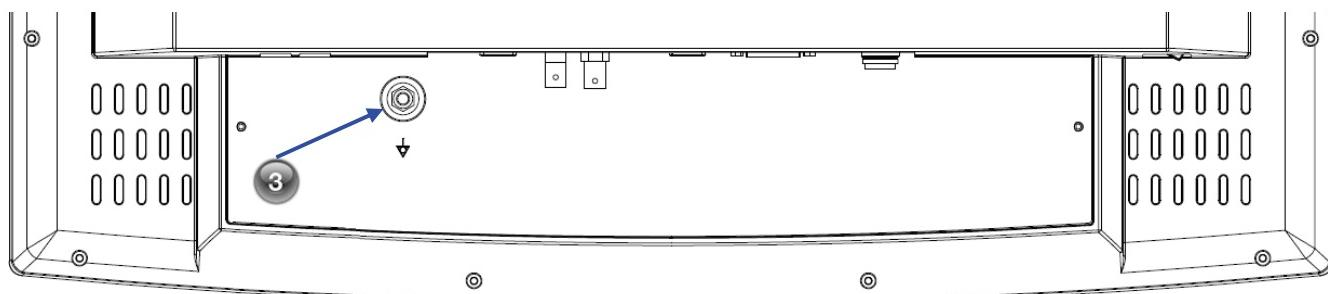

Figure 3 Cable Cover
3. Place the cable cover (Figure 3) on the flat surface below the connector panel (Figure 2). Slide the cable cover up until the tabs along the front of the cover (Figure 3) are seated in the slots at the top of the connector panel. See figure 4 detail ④.